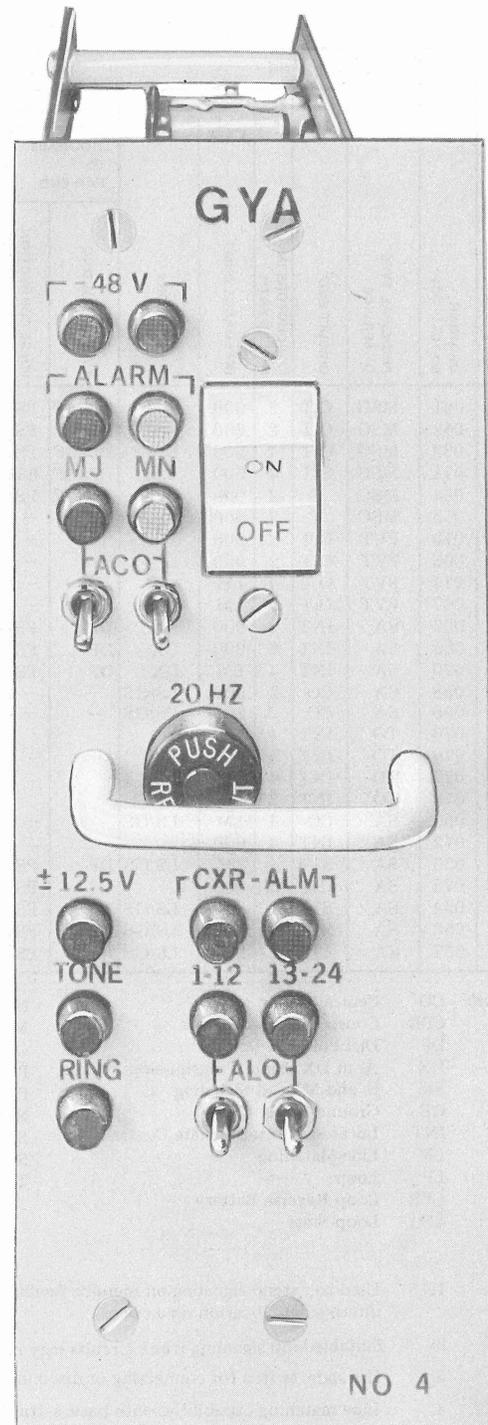

Fig. 8—GYA Unit
2.12 The GYA unit (Fig. 8) is a plug-in unit that consists of a circuit breaker, alarm circuit, carrier group alarm (CGA) circuit, and tone supply circuit. The faceplate of the GYA unit contains the LEDs which are used for trouble indications. The green LED when lighted indicates that -48V battery has been applied to the GYA unit and is available for application to the G module. The green LED will extinguish when there is a current overload condition in the G module or when the -48V battery is removed. Other trouble indications are classified into major alarm (red LED) and minor alarm (amber LED). The major alarm occurs when any of the following conditions exist: (1) loss of 2600-Hz tone, (2) when the power unit fails, or (3) when the circuit breaker is tripped. When these conditions occur, the individual red LEDs will light, indicating which condition has occurred. If there